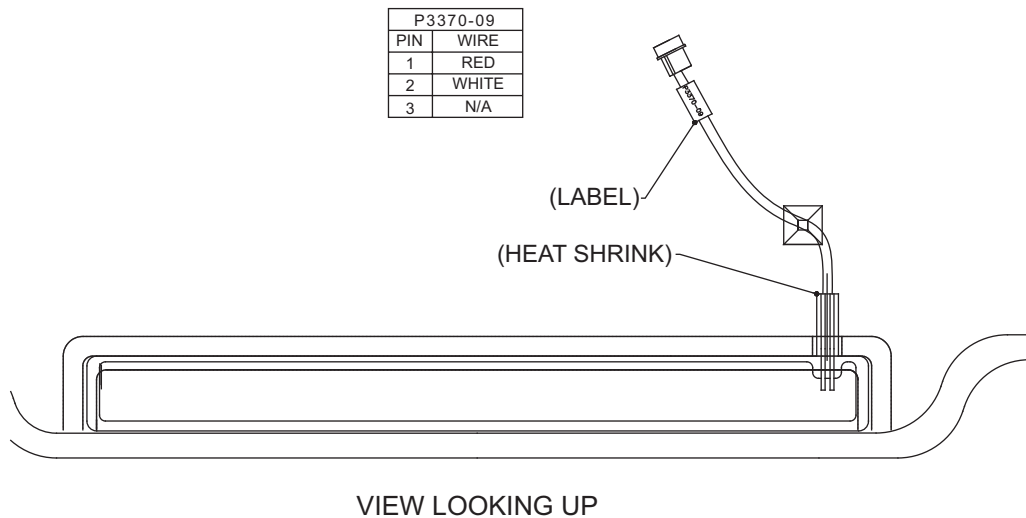

Figure 2 - Installation of Replacement EL Flood light
- 10.20 Install contacts, connector, label, and heat shrink as shown in Figure 2.
- 10.21 Bond cable tie base to underside of instrument panel cover using DP110 adhesive, or equivalent. Attach with cable tie. See Figure 2 for approximate bonding location.